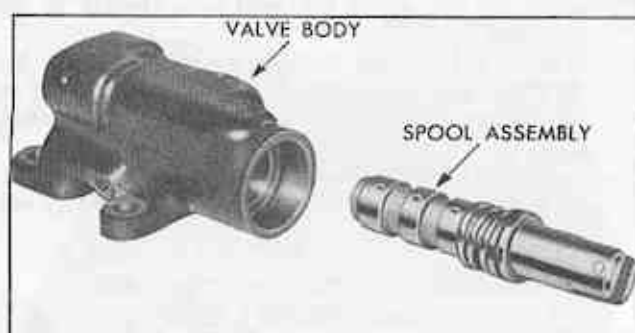

Fig. 55 Spool Assembly Removed
2. Slide spool assembly out of valve body (Fig. 55). Care should be taken to see that neither spool assembly or valve body are scratched or dropped.